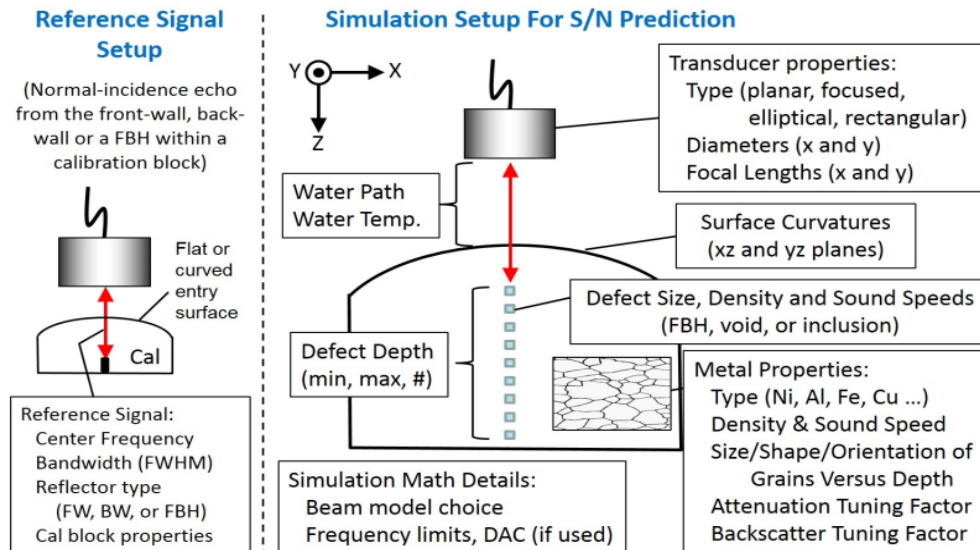

Figure 12. Simulator's startup Preview tab illustrates the required specifications for the simulation
UT measurement, as you can understand now, is a very complicate physical process. Simulating this process hence is quite involved. To accurately define a UT measurement process in the simulator, there are many input parameters to be specified as illustrated in the startup screen of Preview tab (Fig. 12). In order to limit the scope of this simulation task or virtual experiment to a manageable size, you will only adjust a few key parameters and leave most of other settings to their default values.
By “playing” with the simulator, your team is to *determine a set of “Probe” and “Inspection” settings that will be able to find #1 flat bottom holes (FBHs) located between 2.5 and 3.5 cm depth in a flat nickel block of medium grain microstructure, while maintaining a signal-to-noise ratio (SNR) higher than 4.5 at each FBH location.* Viewing from Fig. 12, this is like placing the #1 FBH hypothetically in every depth between 2.5 and 3.5 cm. FBHs are flat-end round holes drilled in from the bottom of the test samples and are commonly used as synthetic defect standards. The size (diameter) of FBHs is specified
The simulator can be accessed from the PCs connected with the three Instron load frame stations. Double click the shortcut "UT\_SN\_Sim" on the desktop of the PC to start the simulator. It may take up to a minute to start for the first time or after a long break. The first screen appeared is a command prompt and the starting GUI tab of Fig. 12 will appear right after. The command prompt is for diagnosis purpose so you can safely minimize it for the rest of simulation. Depending on the screen resolution of the computer monitor, the GUI may take up significant screen height, and its bottom edge may be blocked by Windows taskbar. If this happens, *set taskbar to auto hide mode* to avoid such blockage.
In Probe tab (Figs. 12 and 13; see also pages 18- 21 of lecture notes):
***The SNR plot in the middle is where you determine if you have found the best inspection setups for the task. At the very bottom of the result window, the most important output parameters such as SNR value are also listed. After a few simulation runs, you will have better ideas how to set the parameters for Probe and Inspection, and in a few more runs you will be able to obtain the settings satisfying the 4.5 SNR requirement. You should also study the contents in the preview tab (Fig. 12). In conjunction with the result plots, these contents would help you to get a better understanding on the type of calculation being done by the simulator.***